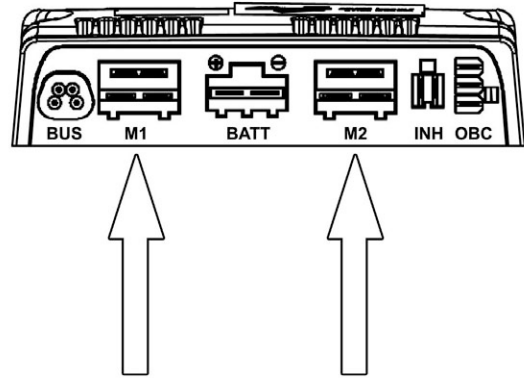

Figure 61. Connect the magnetic wheel lock and drive motor cabling to the Power Module.
4. Connect the magnetic wheel lock and drive motor cabling to the Power Module. See fig. 61.